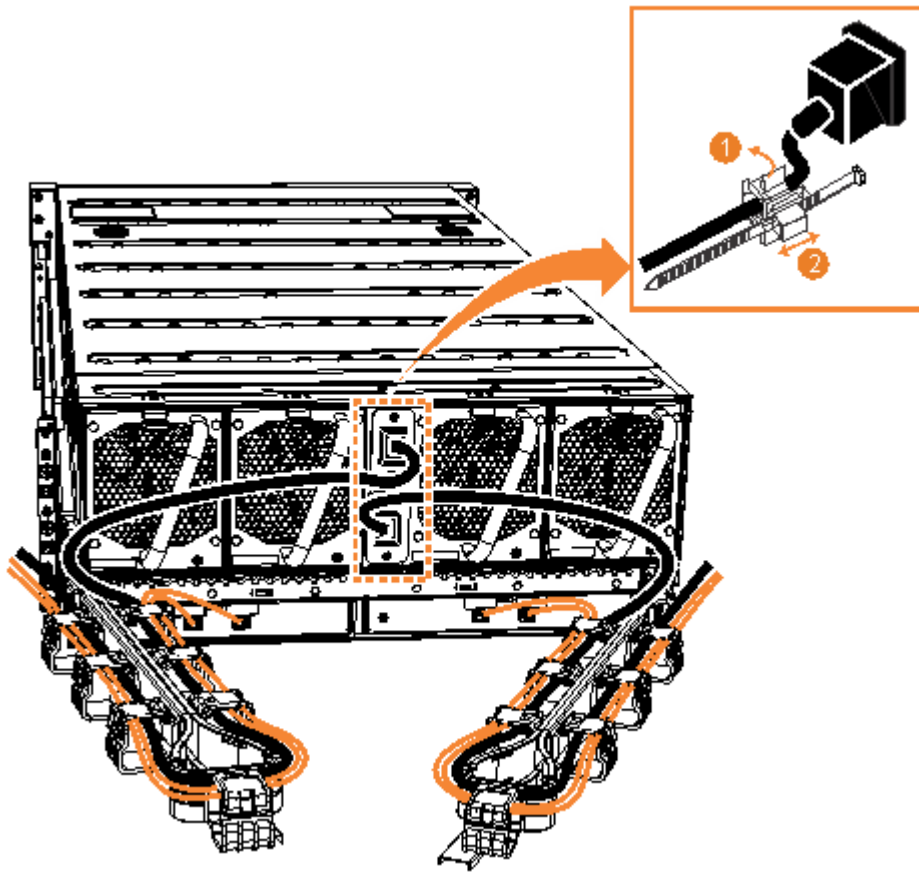

Figure 62. Secure power cables
2. Secure the power cables in the cable retainer at each power connector on the rear of the enclosure, as shown in Figure 62 on page 61. Also, ensure that each cable is installed along one of the cable management arms. The cable management arms also support the SAS cables.